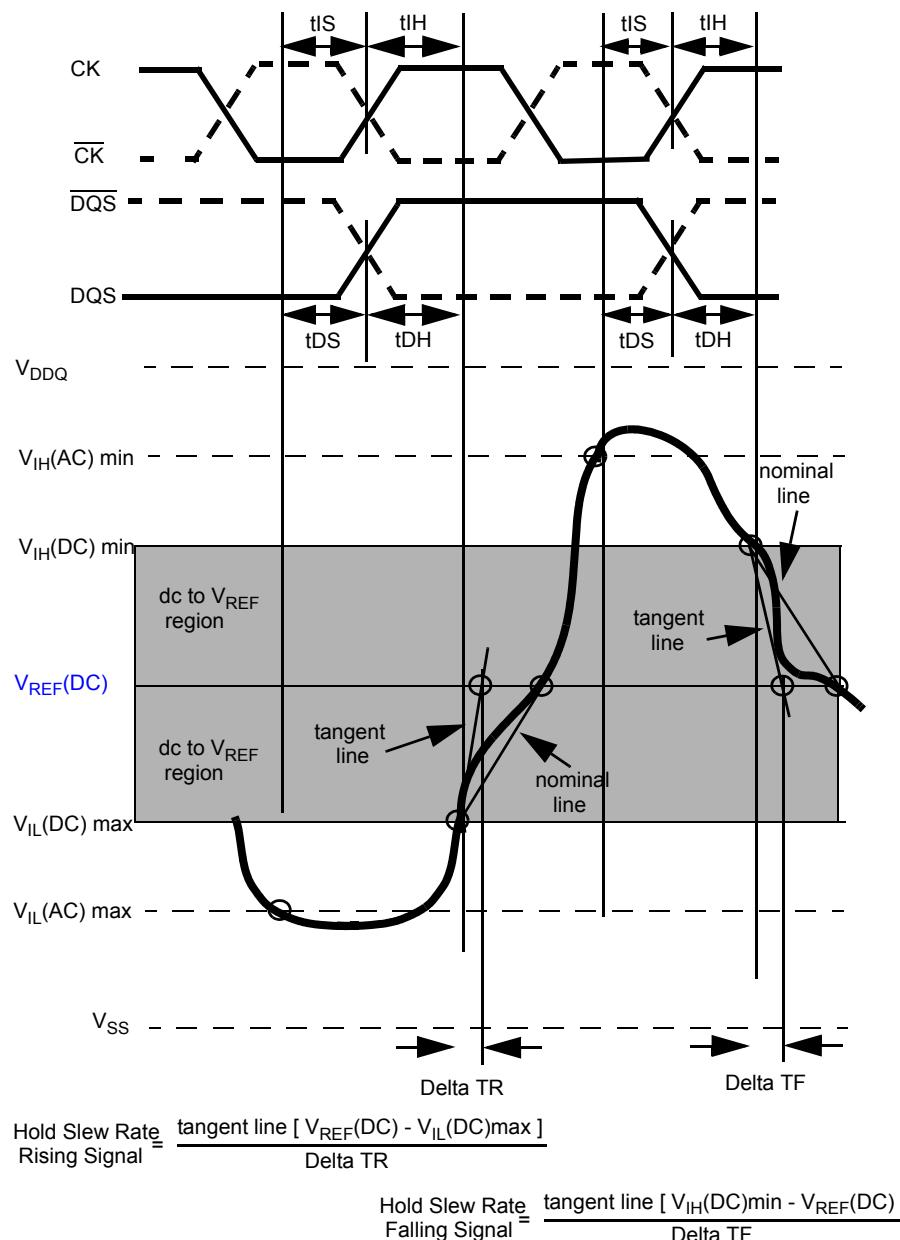

Figure 24 - Illustration of tangent line for hold time tDH (for DQ with respect to strobe) and tIH (for ADD/CMD with respect to clock)
Hold (tIH) nominal slew rate for a rising signal is defined as the slew rate between the last crossing of $V_{IL}(DC)max$ and the first crossing of $V_{REF}(DC)$. Hold (tIH) nominal slew rate for a falling signal is defined as the slew rate between the last crossing of $V_{IH}(DC)min$ and the first crossing of $V_{REF}(DC)$. If the actual signal is always later than the nominal slew rate line between shaded 'dc to V_{REF}(DC) region', use nominal slew rate for derating value (see Figure 24). If the actual signal is earlier than the nominal slew rate line anywhere between shaded 'dc to V_{REF}(DC) region', the slew rate of a tangent line to the actual signal from the dc level to V_{REF}(DC) level is used for derating value (see Figure 26).